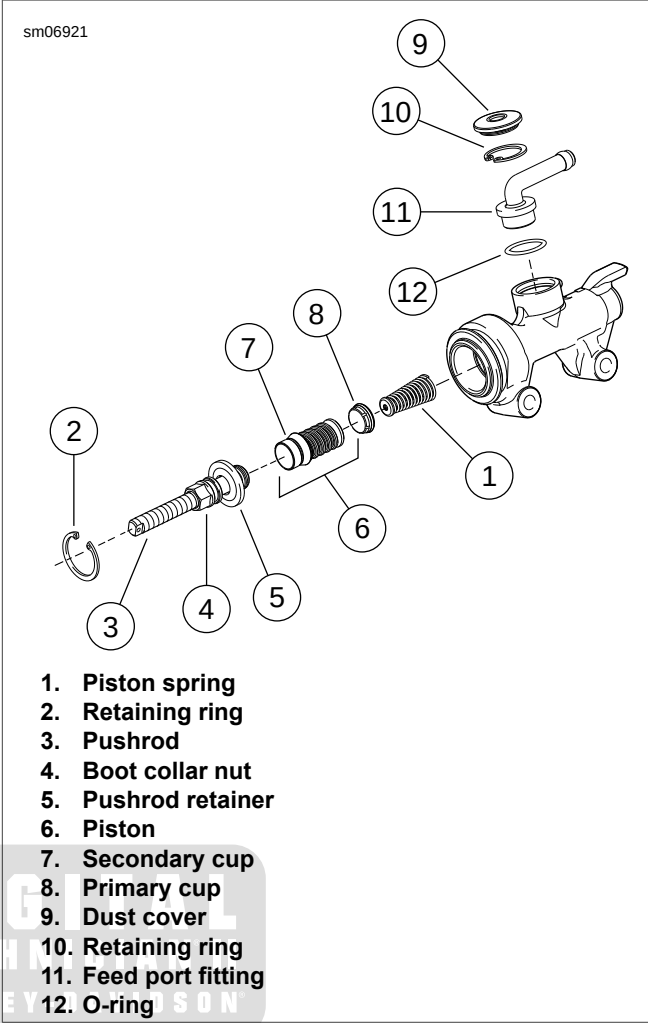

Figure 2-86. Rear Brake Master Cylinder
6. See Figure 2-86. Thread shoulder nut back onto pushrod several turns, to protect pushrod threads. Press down on pushrod to compress piston spring (1). Remove retaining ring (2).
7. Remove pushrod (3) with boot collar nut (4) and pushrod retainer (5), piston (6) with secondary cup (7), primary cup (8) and piston spring. Discard retaining ring, piston with secondary cup, primary cup and piston spring.
8. Remove dust cover (9), retaining ring (10), feed port fitting (11) and O-ring (12). Discard retaining ring and O-ring.